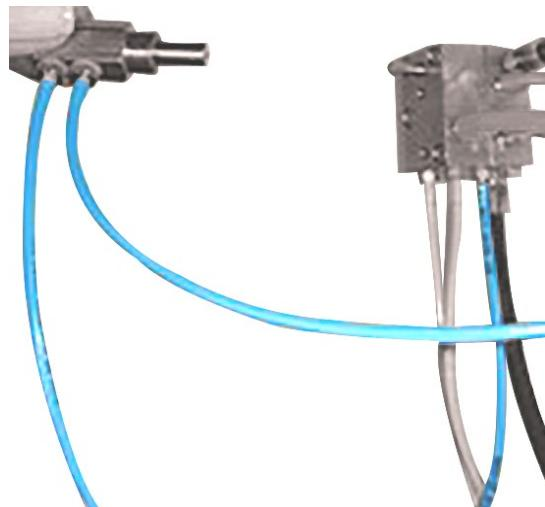

Fig. 6
- 10 For instruments that require water, a flow control needle valve will need to be installed. There are two ports with blue water lines already connected to the valve. Attach the bottom water line on the flow control valve to the water port on front of the new control block. (Fig. 6)